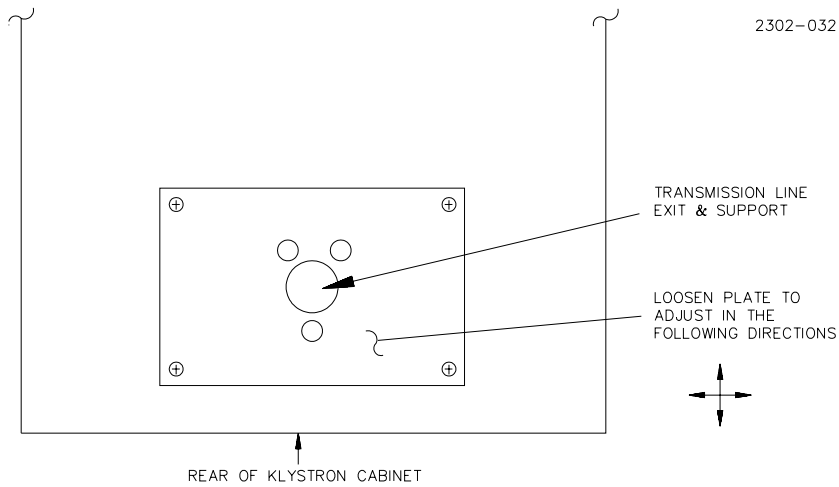

Figure 2-2. Transmission Line Lateral Adjustment
- a. Install the top half of the rf breakaway in the cabinet. Threaded rod supports it from three bolt holes in the cabinet top mounting plate. See Figures 2-2 through 2-5.